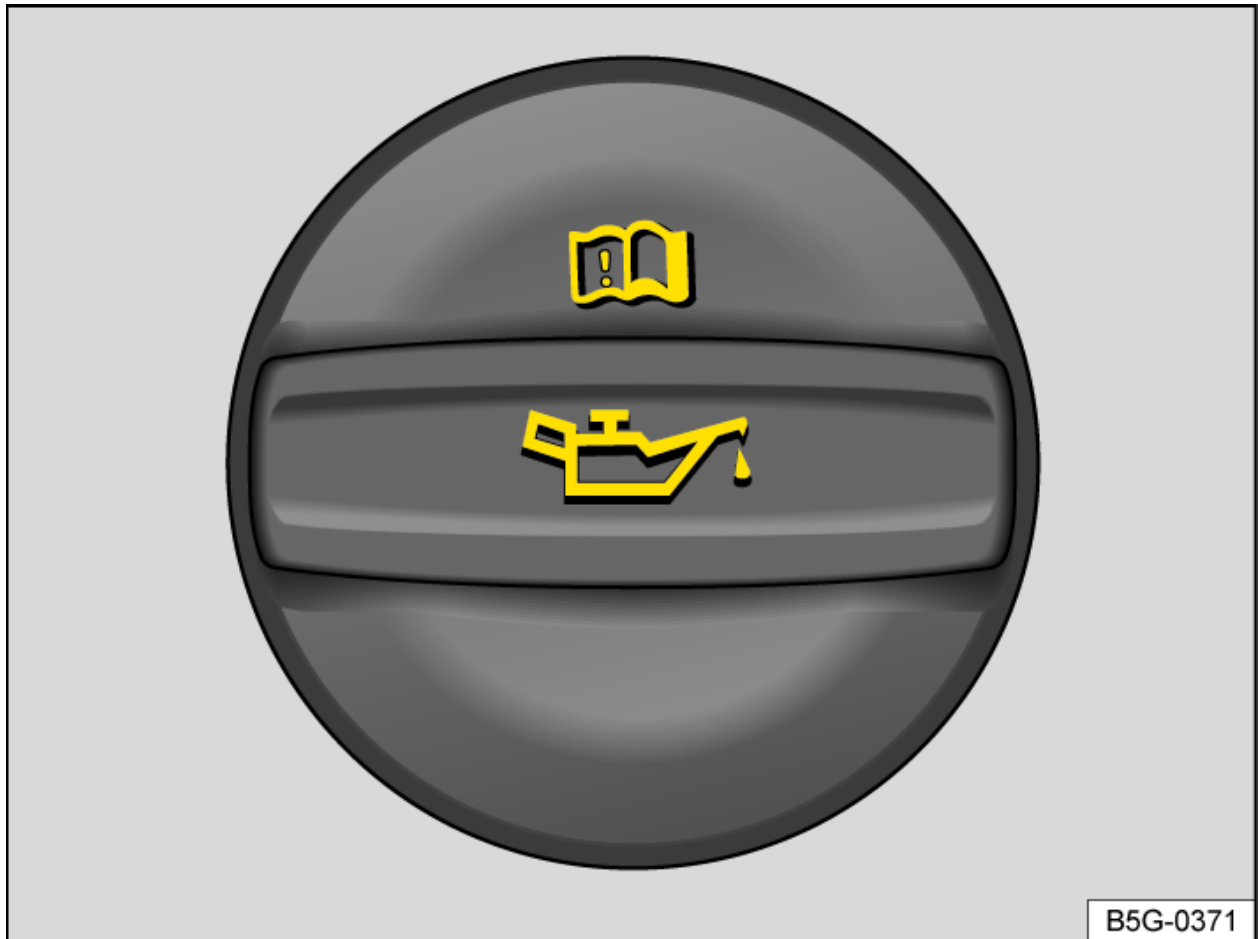

Fig. 2 In the engine compartment: engine oil filler cap (general example).
- Remove the cap on the engine oil filler → *fig. 2*.